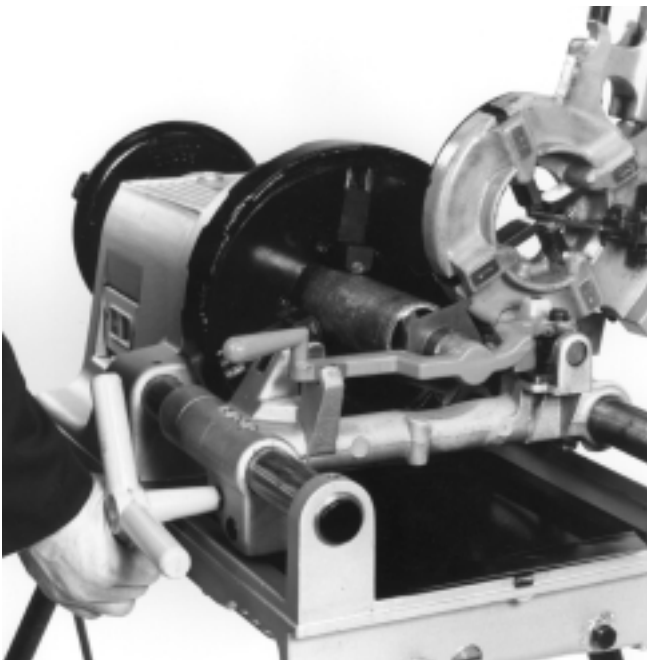

Figure 6 – Reaming Pipe with No. 743 Reamer
(Figure 6)
1. With cutter and die head in their **UP** position, swing reamer into its operating position. (Figure 6)